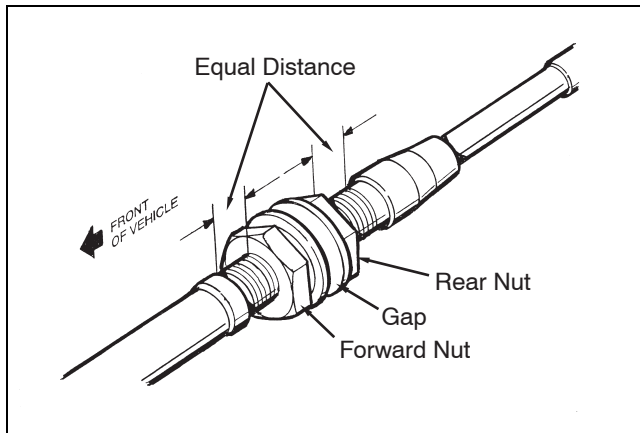

**Figure 4E-14. Rotate Shift Lever to Third Gear**
2. Begin with the neutral shift cable (this cable is attached to the shift lever rod on the upper part of the shifter assembly). Note the nuts and washers which will be used to secure the cable to the bracket on the transmission. Position the nuts and washers to the center of the threads on the cable as shown in Figure 4E-15 (leave a gap to allow mounting the cable to the bracket).